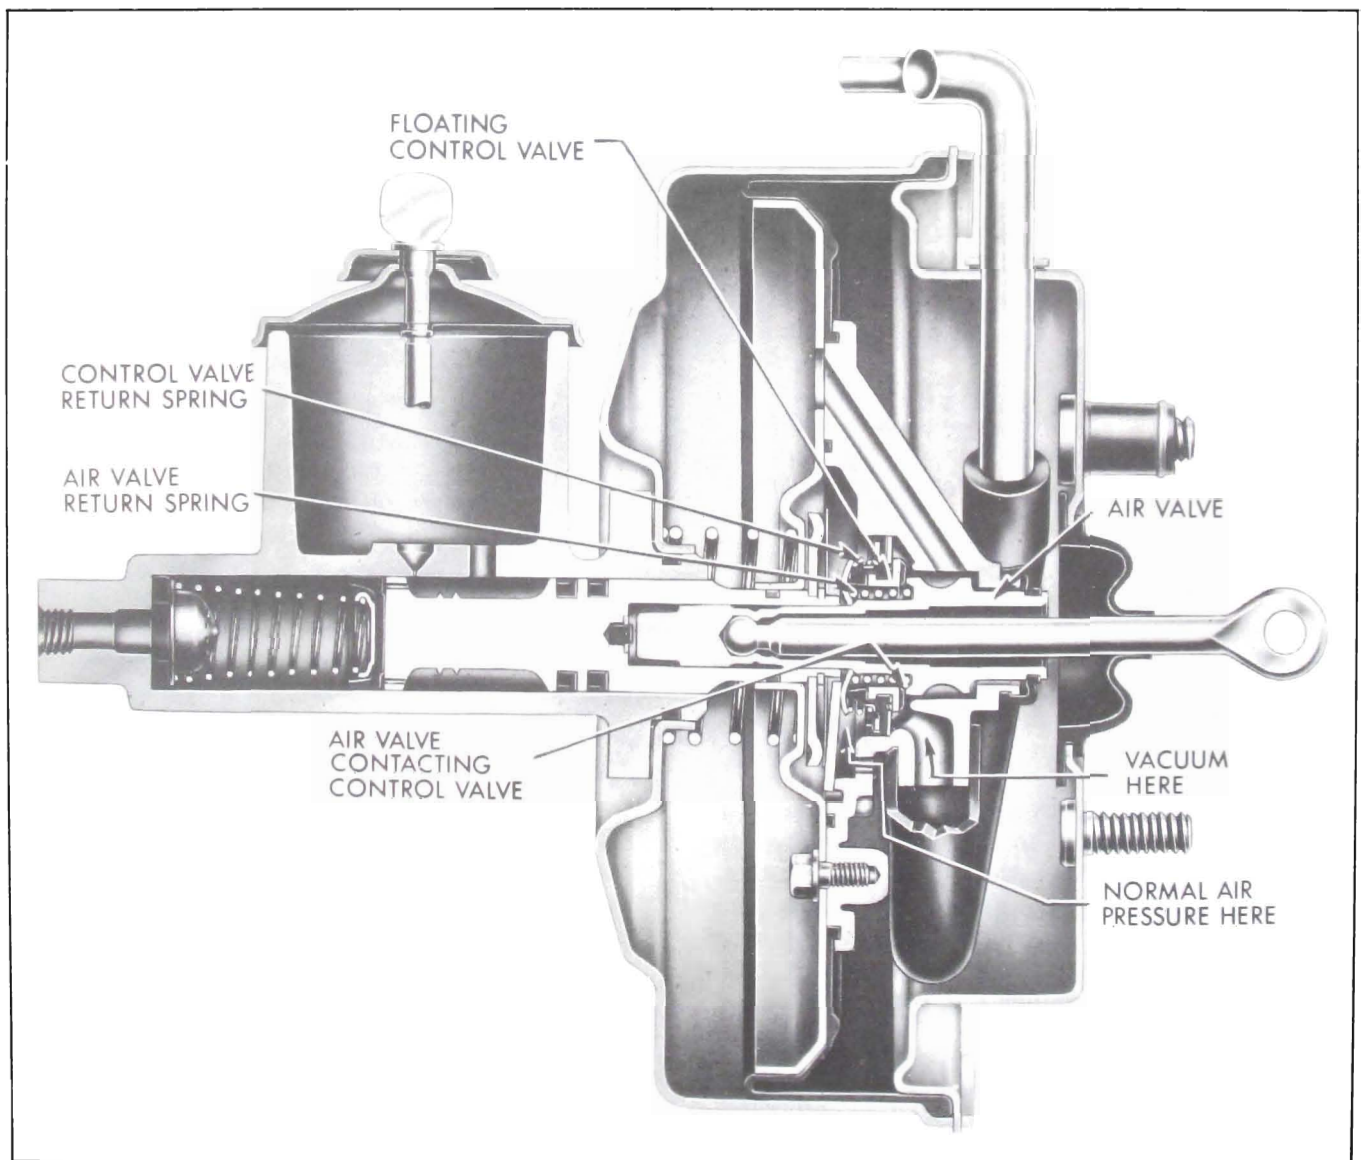

Figure 9-16—Applying
(2) Applying. See Figure 9-16. As the brake pedal is depressed, the push rod moves the air valve forward until its annular seat contacts the floating control valve, at which point atmospheric pressure is sealed off from the vacuum chamber. Further movement of the air valve pushes the floating control valve away from its annular seat in the power piston, thus connecting the vacuum chamber to the vacuum source. As air is exhausted out of the vacuum chamber, atmospheric pressure in the air chamber starts moving the power piston forward.
air valve reaction plate back against the floating control valve snubbers. See Figure 9-16.